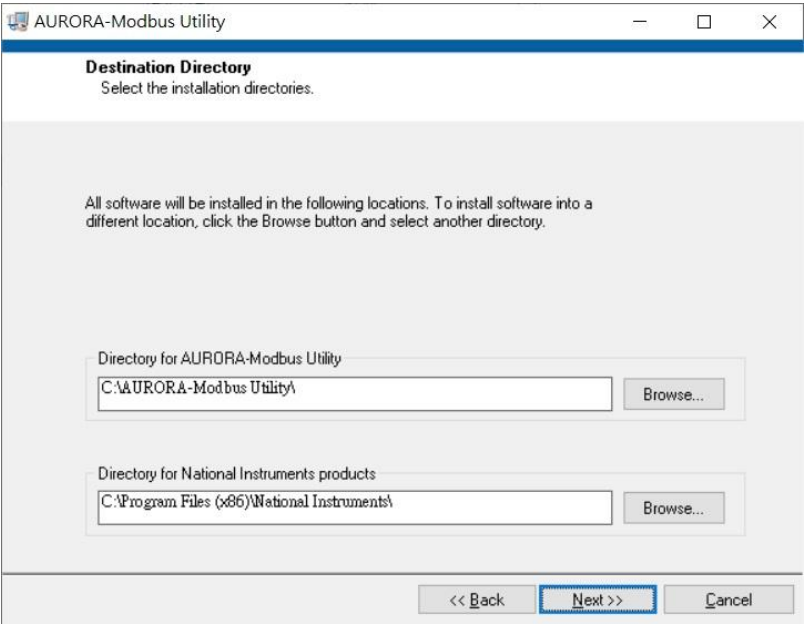

Figure1-7 Aurora Modbus Utility Select Installation Directory
Step 2: Select target installation directory and click 'Next' (Figure1-7)